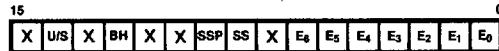

Figure 12. Master Status Register
**Master Status Register.** The Master Status register (Figure 12) is a 16-bit register containing status information about the currently executing program. This register is cleared to 0 during reset.